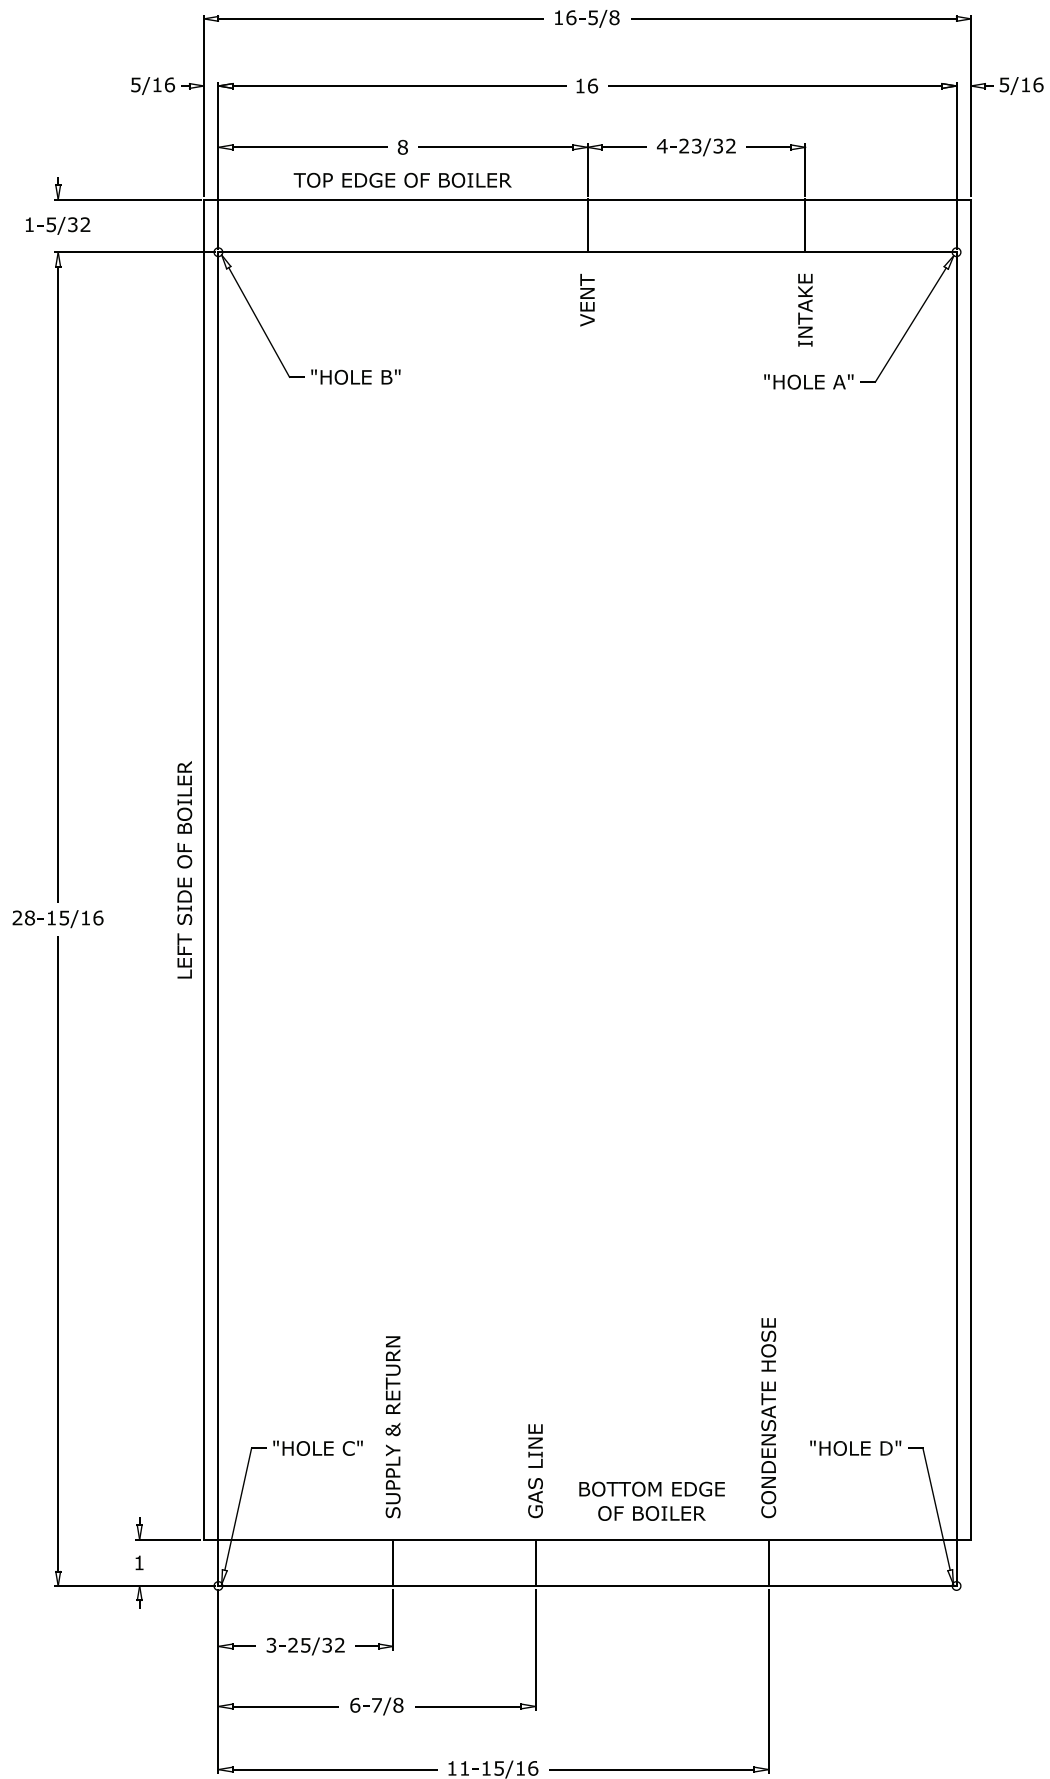

Figure 5.1 Wall Layout/Mounting Hole Location
5. Once a suitable location has been selected for the boiler, and any needed modifications have been made to the wall, use Figure 5.1 to locate holes "A" and "B". Make sure that the horizontal centerline of these holes is level. Holes "C" and "D" may also be drilled at this time or after the boiler is hung on the wall. If the $\frac{5}{16}$ " x 2" lag screws are used, drill $\frac{3}{16}$ " pilot holes.